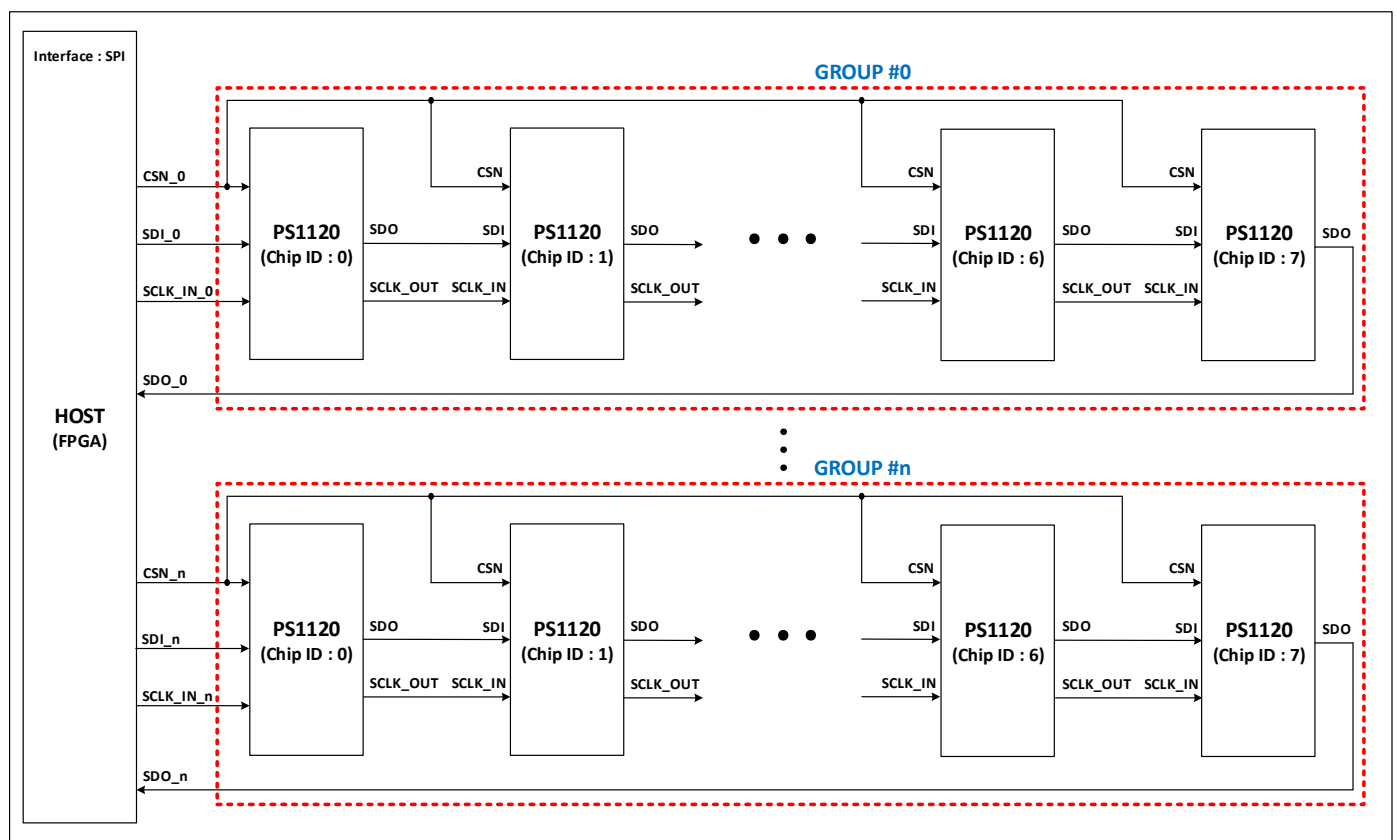
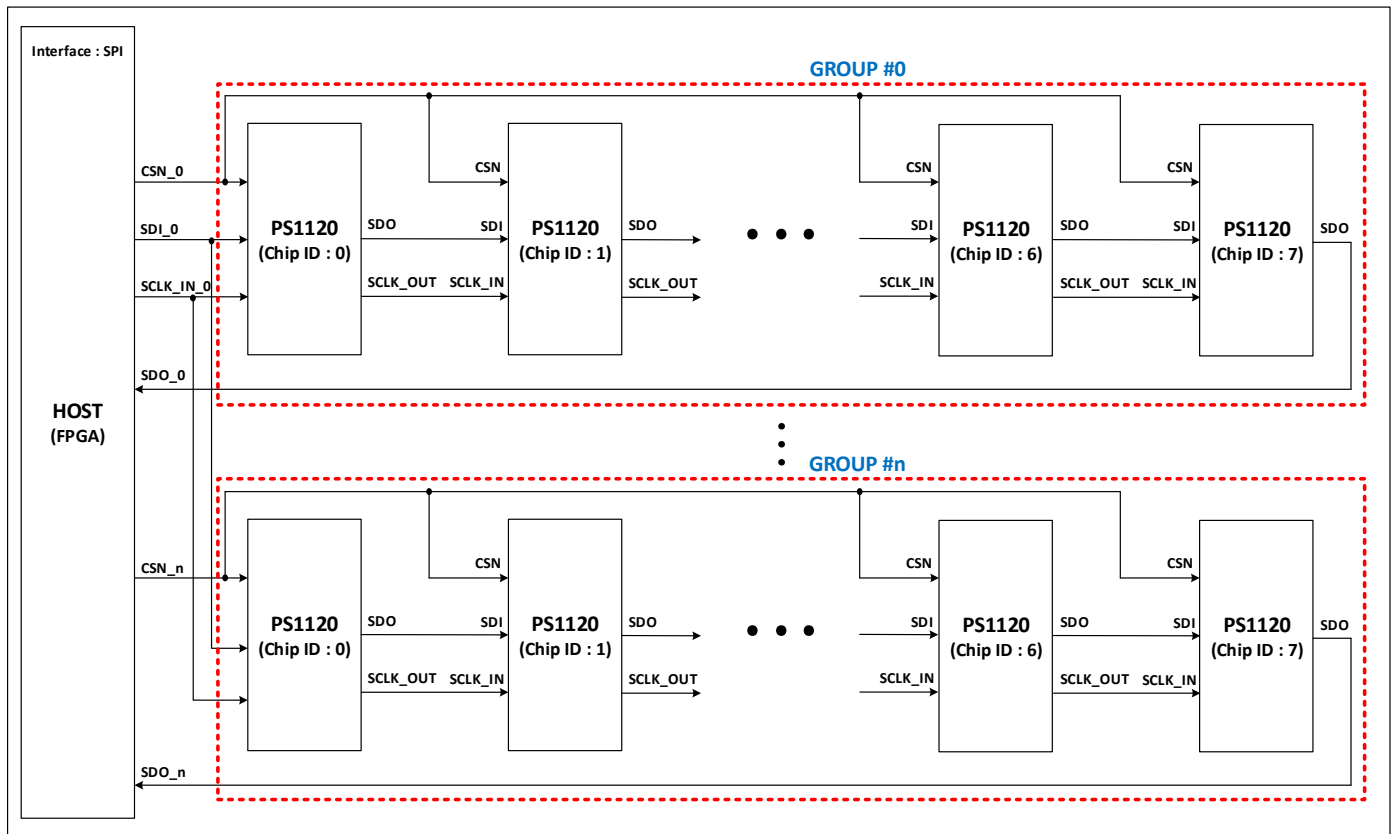

Figure 9. Connection of No Shared Pin Daisy Chain
Figure 10. Connection of Shared Pin Daisy Chain
Figures 9 and figure 10 show how to configure a daisy chain using the PS1120. In this case, it requires more Operation (OP) cycles than operating commands using one PS1120 chip.
Figure 9 shows a structure in which eight daisy chains are composed of n groups.
Figure 10 shows a structure in which eight daisy chains organized into n groups. The SCLK and SDI coming from the host (FPGA) shared and only CSN used independently.